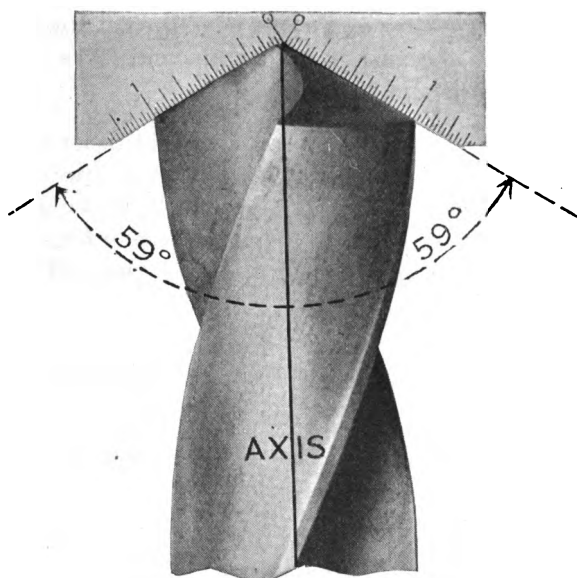

Fig. 13 — Correctly Ground Lips
- (a) The two lips are the same length — (Fig. 13).
- (b) The angles of both lips (in relation to the axis of the drill) are equal and correct — 59 degrees is recommended as the best angle for ordinary purposes. (Fig. 13.)